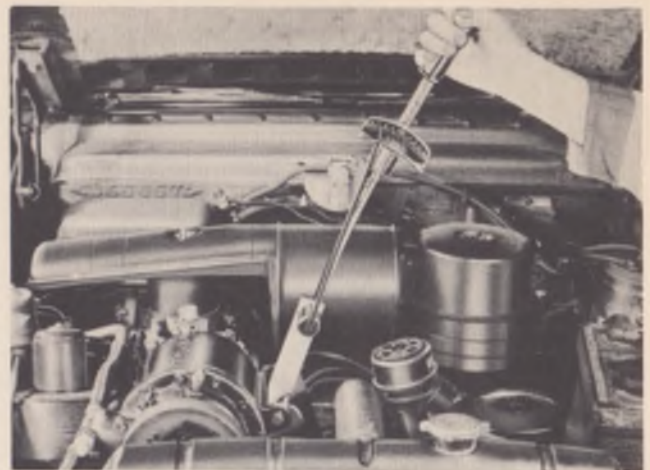

Fig. 22
17. Install the compressor and the belts. Using Belt Tension Adjuster J-5577 and a 0-100 ft. lb. torque wrench, tighten the belts to 58 ft. lbs. See Figure 22. Tighten all compressor to mounting bracket bolts while maintaining this 58 ft. lb. torque.
6. Install the belts. Using Belt Tension Adjuster, J-5577 and a 0-100 ft. lb. torque wrench, tighten the belts to 58 ft. lbs. See Figure 22. Tighten all compressor to mounting bracket bolts while maintaining this 58 ft. lb. torque.